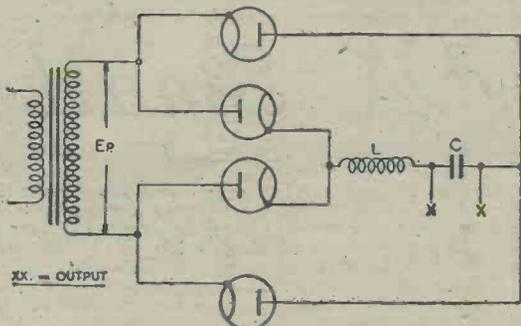

Fig. 4.—Single-phase full-wave rectification.
- Fig. 4.—Single-phase full wave.